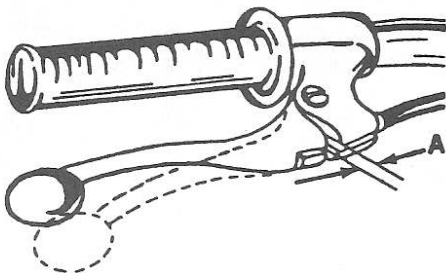

Fig. K4-18—Brake lever free play (A) should be 4-5 mm (0.16-0.20 in.).
the bottom end of the brake cable. Brake lever free play measured at gap (A—Fig. K4-18) should be 4-5 mm (0.16-0.20 in.).
**BRAKE LEVER FREE PLAY.** Brake lever free play is adjusted by loosening brake cable locknut and rotating cable adjuster. Note that actuating lever at each front brake should move an equal distance. If not, rotate wing nut on cable end at equalizer lever until cable movement is equal on both front brake cables. Then rotate brake cable adjuster until free play, measured at gap (A—Fig. K4-18) is 4-5 mm (0.16-0.20 in.) with front brake lever applied. Tighten brake cable locknut to retain adjustment.